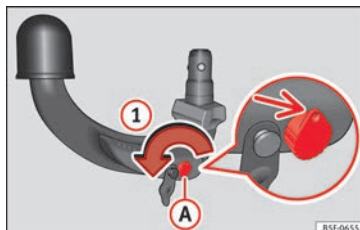

Fig. 226 Step 1
- Turn the key in the direction of arrow ① until the part of the key with the holes reaches the top position » Fig. 226.